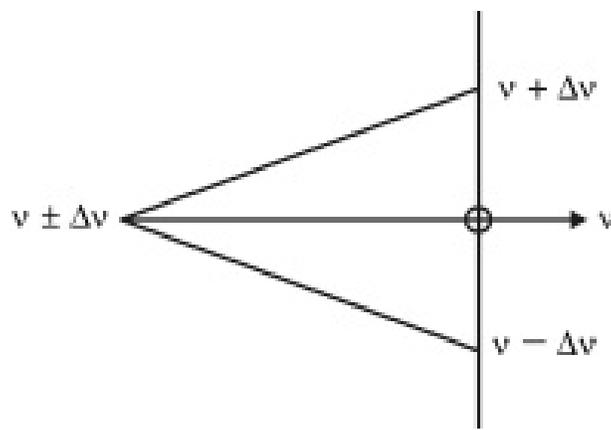

Fig. 7.6.1
- As shown in Fig. 7.6.1 if there is a beam of charged particles with velocity $v \pm \Delta v$ (i.e. mixed velocities to same extent) then particles will be filtered for $v + \Delta v$ and $v - \Delta v$ as the given values of E and B are such that only those charges with velocity ' v ' will be able to go on straight path (selection) where as $v + \Delta v$ will experience higher F_E hence it will go above straight path and $v - \Delta v$ will experience higher F_m hence it will go below straight path (filtration).